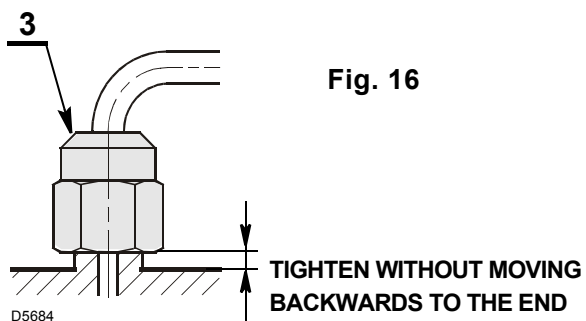

Fig. 16
When refitting the nozzle-holder assembly (5), tighten nut (3) as shown in figure 16.